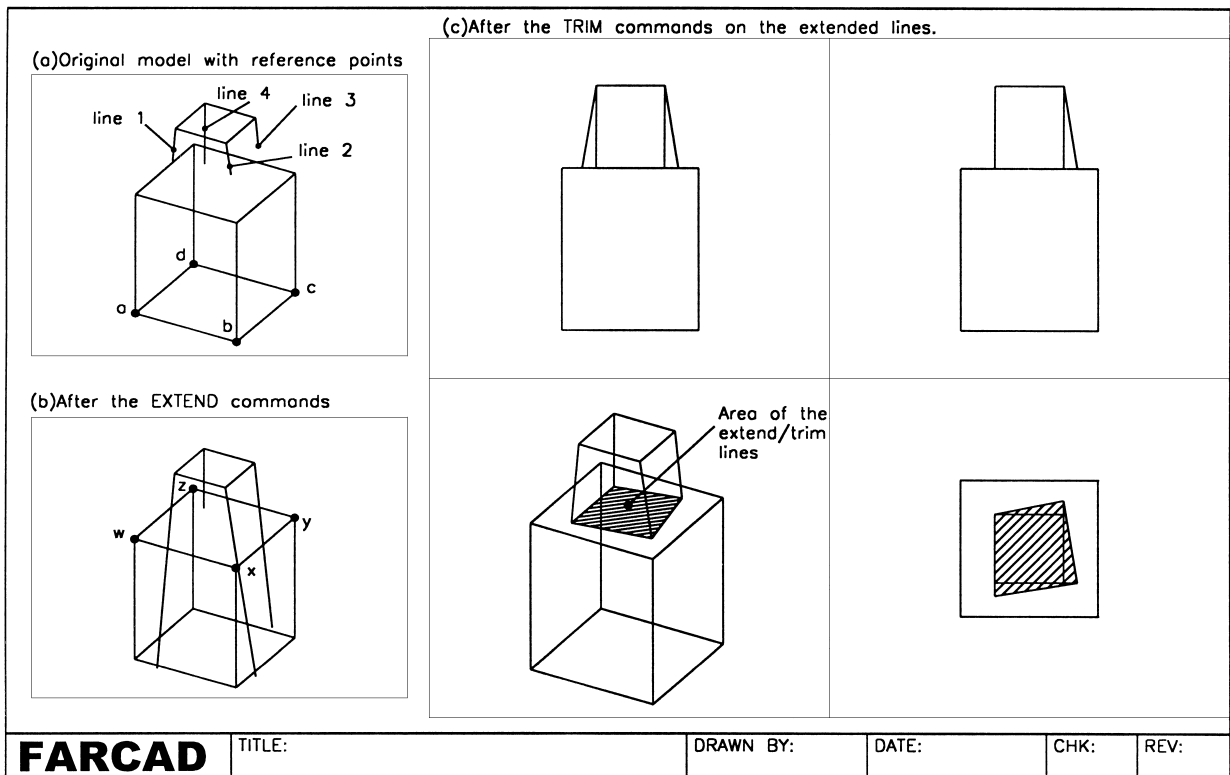

Figure 22.7 The EXTEND and TRIM commands.
- 1 Open your MV3DSTD template file and refer to Fig. 22.7